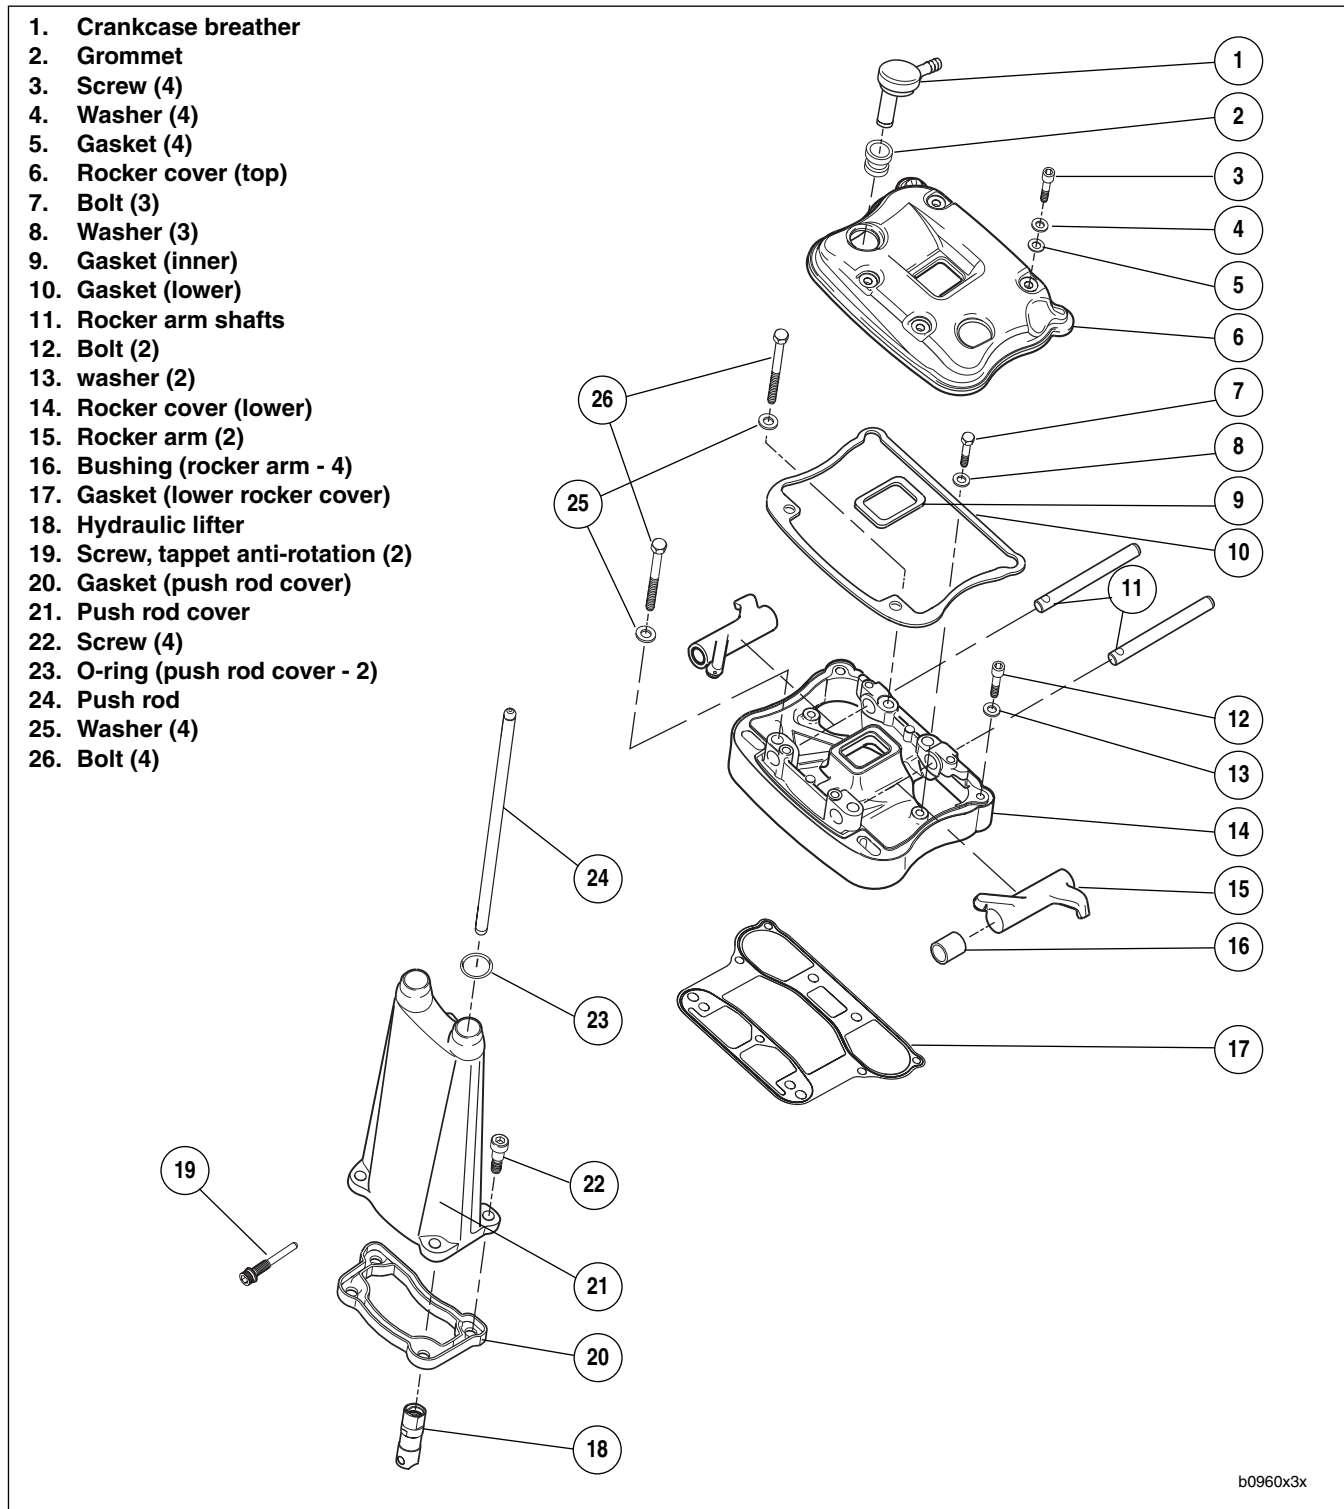

Figure 3-44. Rocker Arm and Push Rod Cover Assemblies
2. See Figure 3-44. Remove screws with washers and fiber cover seals. Discard fiber seals.
- a. Remove two screws and washers (1).
- b. Remove three bolts and washers (2).
- c. Loosen the four rocker arm fasteners (3) in 1/4-1/2 turn increments using a cross pattern in order to relieve valve spring pressure on the lower rocker box.
7. See Figure 3-44. Remove lower rocker cover.
13. See **Figure 3-44**. Remove push rod cover, gasket and valve tappets.